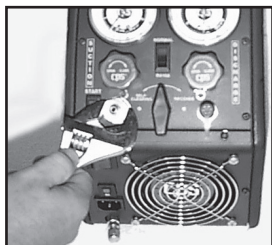

Figure 1
1. Use a 7/8" socket or boxed end wrench to loosen the suction port as shown in Figure 1.